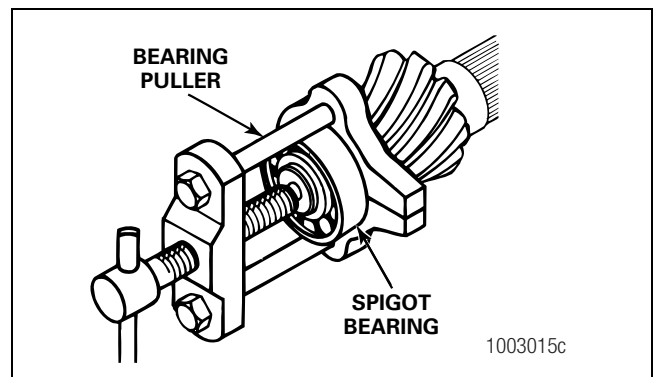

Figure 3.31
9. Remove the spigot bearing from the drive pinion with a bearing puller. Figure 3.31. Some spigot bearings are fastened to the drive pinion with a special peening tool. Figure 3.32.